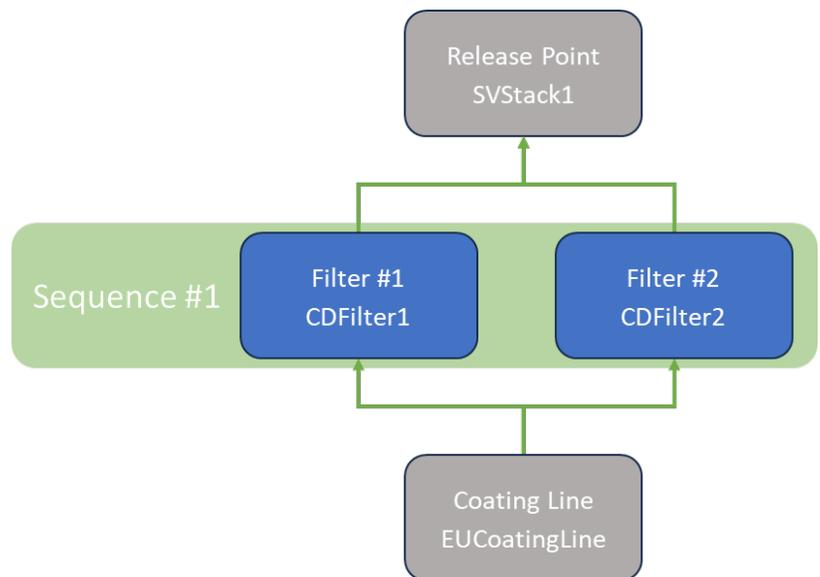

Figure 11-7 Same Sequence Number in Parallel
- Entries with the same sequence number are in parallel, meaning that the exhaust gas could go through either route. See Figure 11-7.